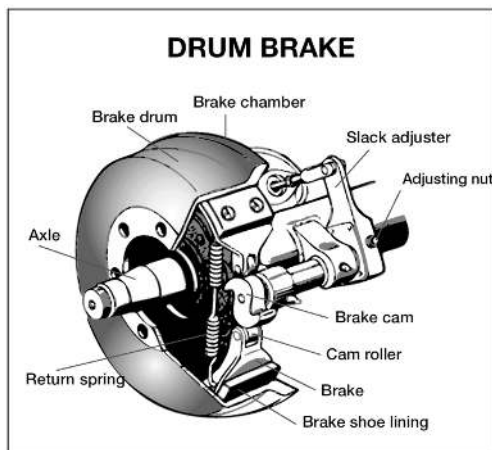

Figure 5.2
**S-cam Brakes.** When you push the brake pedal, air is let into each brake chamber. Air pressure pushes the rod out, moving the slack adjuster, thus twisting the brake camshaft. This turns the s-cam (so called because it is shaped like the letter "S"). The s-cam forces the brake shoes away from one another and presses them against the inside of the brake drum. When you release the brake pedal, the s-cam rotates back and a spring pulls the brake shoes away from the drum, letting the wheels roll freely again. See Figure 5.2.